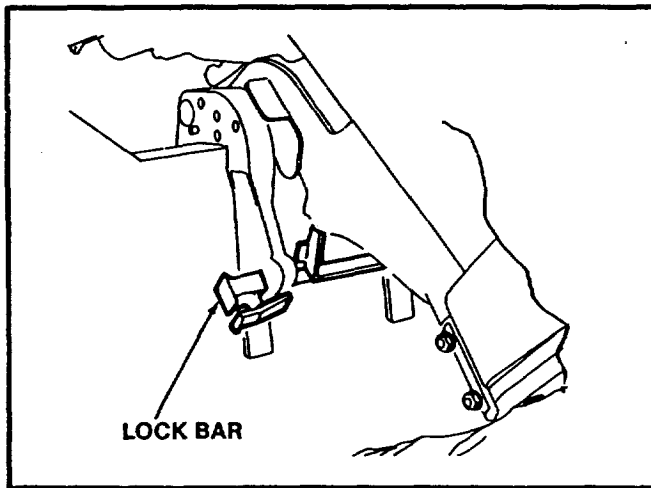

FIGURE 12
- Pull the tilt stop up and slowly lower the motor making sure that the shallow drive bar rests against the motor lock bar. (Figure 12)